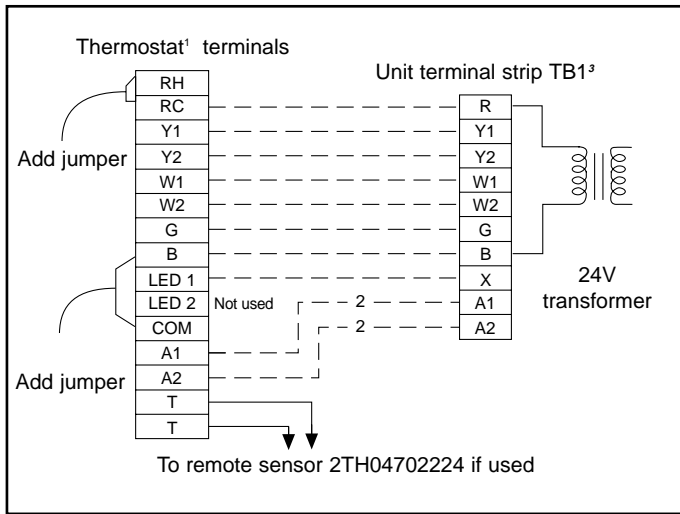

**Fig. 5 - Ribbon cable and display mounting**
3. Hang the top edge of the display on the subbase hooks. See Fig. 5.
5. Insert and tighten three Allen head screws on the bottom of the thermostat. See Fig. 5.